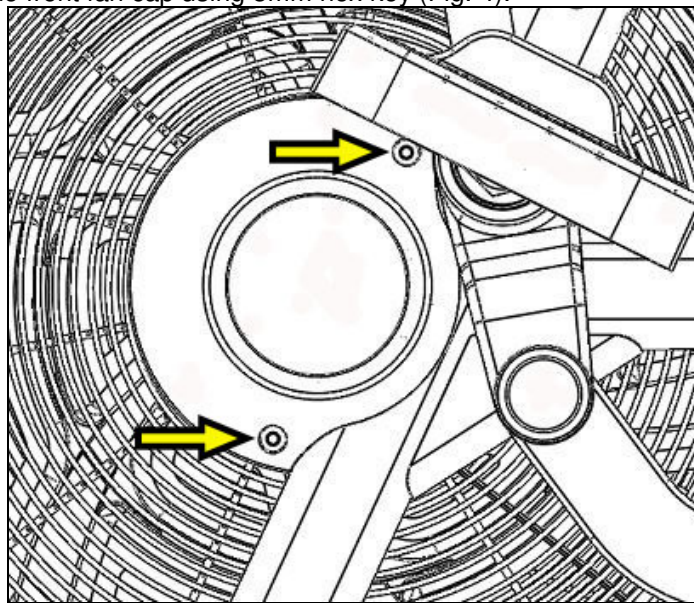

Fig. 4
- Remove (2) screws from the front fan cap using 3mm hex key (Fig. 4).